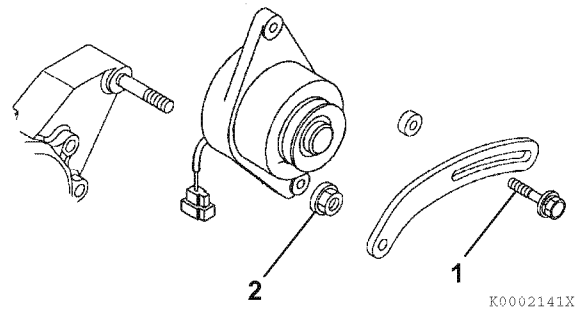

Figure 11-23
3. Remove the V-belt adjuster from the dynamo bolt (**Figure 11-23, (1)**).
4. Remove the nut (**Figure 11-23, (2)**) from the gear case stud. Remove the dynamo.